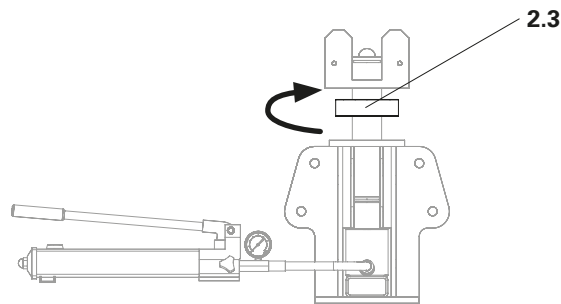

Fig. E2.01b
3. Screw in the head spindle nut (**2.3**) by half a turn (**5 mm**). (Fig. E2.01b)